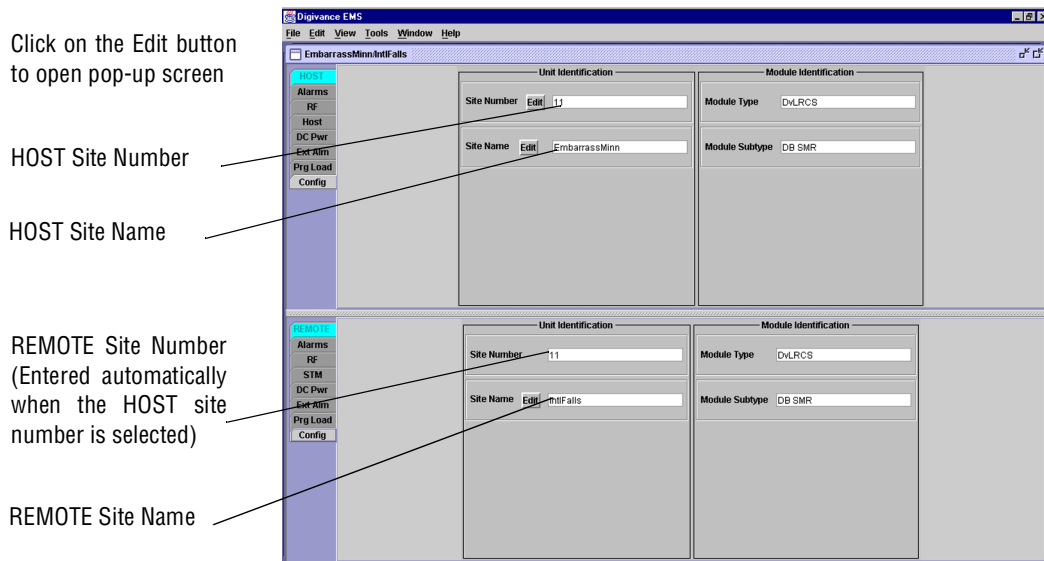

Figure 3-6. HOST and REMOTE Config Displays
1. Click on the HOST **Config** tab and on the REMOTE **Config** tab. The HOST **Config** display and the REMOTE **Config** display will open within the EMS main window as shown in Figure 3-6.